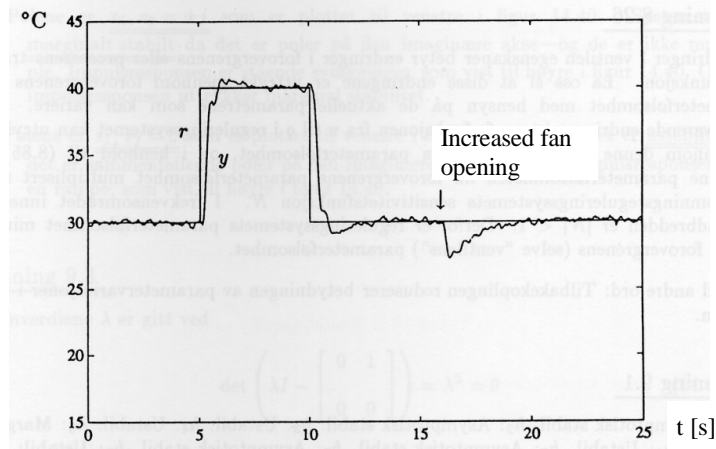

Figure 12.14:
3. The PID-controller gives zero control error (in average), see Figure 12.14.